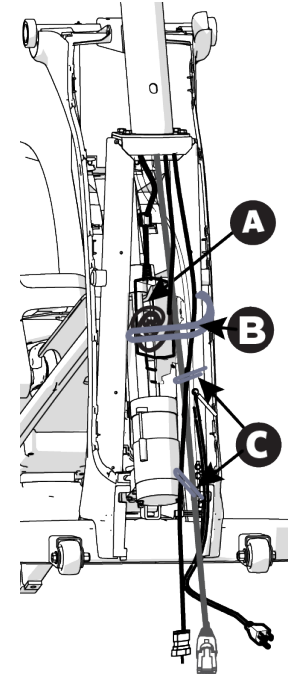

Figure 3
1. Hook the Power Supply Bracket (included in console box) onto the right upright support (Figure 3).
2. Coil up all cables—coax, power and Ethernet—and hold the power supply **A** on the holder with one hand, and with the other hand, thread a large zip tie around the upright support **B** (Figure 3).